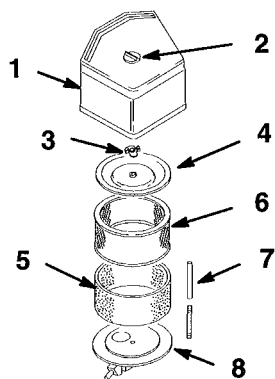

Figure 14
3. Clean around the air cleaner to prevent dirt from getting into the engine and causing damage. Remove knob and the air cleaner cover (Fig. 14).
4. Carefully slide the foam element off the paper element (Fig. 14).
5. Unscrew the cover nut and remove the cover and paper element (Fig. 14).
1. Carefully slide the foam element onto the paper air cleaner element (Fig. 14).
2. Slide the air cleaner assembly and cover onto the long rod. Now screw the cover nut finger-tight against the cover (Fig. 14).
3. Install the air cleaner cover (Fig. 14).